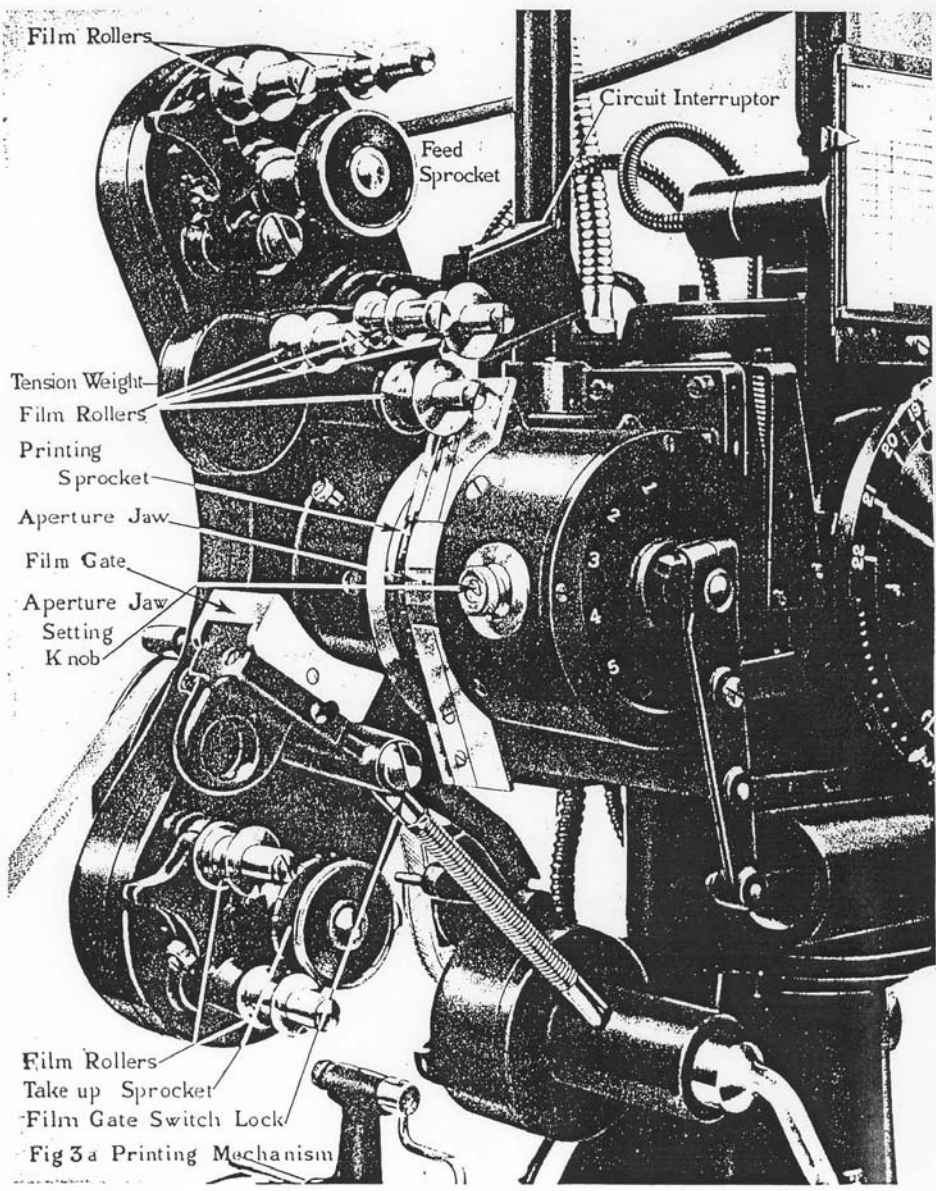

Fig 3a Printing Mechanism
12. Printing Aperture Jaw (figure 3A) (Model J)
- (a) The printing aperture jaw is located inside the drum portion of gear case as shown in figure 3A. A sliding jaw, operated by the aperture jaw setting knob permits the locating of three individual aperture openings in printing position. The purpose of each opening is as follows:
- (1) When the knob is set so the pointer is at "Sound Only," the width of the printing aperture permits the printing of only the sound tracks.
- (2) When the knob is set so the pointer is at "Picture Only," the width of the printing aperture permits the printing of only the picture area. This opening is used for printing the picture area from either sound or silent negatives.
- (3) When the knob is set so the pointer is at "Sound Picture," the width of the opening permits the printing of the sound track and picture area simultaneously. It is obvious that the simultaneous printing of picture and sound track can be done only from master 16mm sound negatives in which the density of the sound and picture area have been matched to permit their being run through the printer at one light setting.